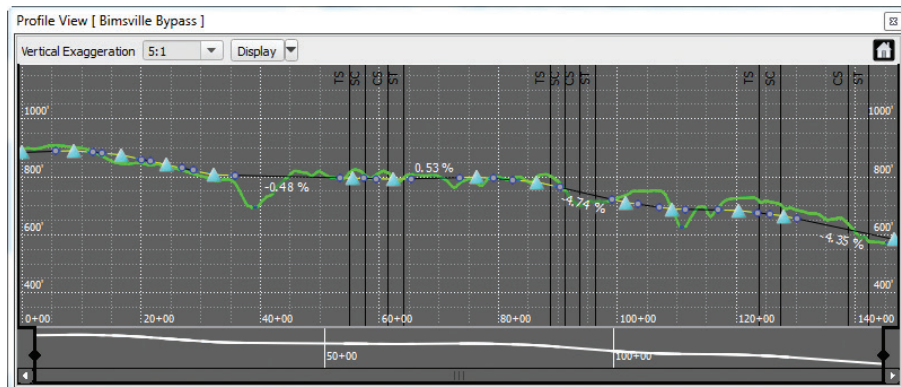

FIGURE 3.11 An optimized profile
21. Study the profile and take note of how the optimization process redesigned it (see Figure 3.11).